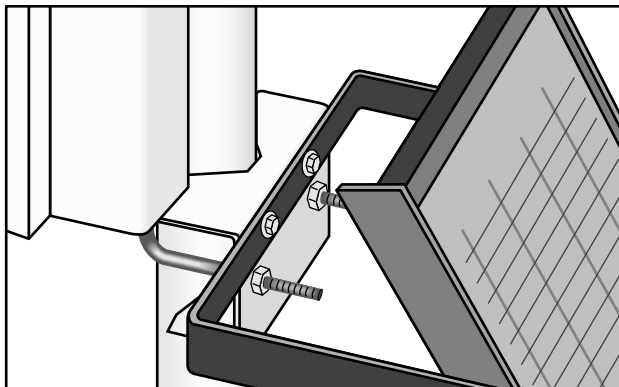

FIGURE 3.1-3. Solar Panel Mounting
- a) Mount the solar panel to the tower using the mounting brackets as shown in Figure 3.1-3. Mount the solar panel to the tower so it faces south (northern hemisphere). Position it as high off the ground as practical, ensuring it cannot interfere with air flow or sunlight around the sensors. The solar panel should be oriented to receive maximum insolation over the course of the year. Suggested tilt angles (referenced to the horizontal plane) are listed below.